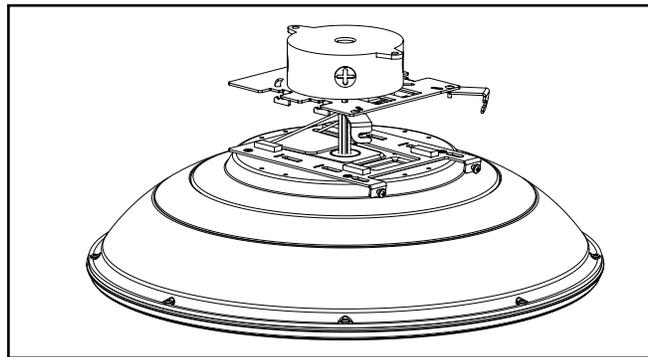

Figure 5.
**Make Electrical Connections. (Figure 5)**